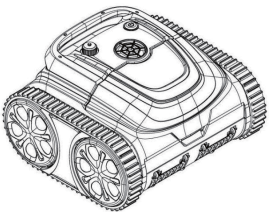
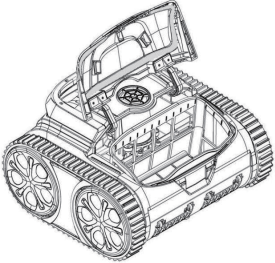

Figure 4-1
Figure 4-2
4.3.1 Place the cleaner on a flat, dry surface, open the top cover by hand and access the filter basket as shown in (Figure 4-1), and (Figure 4-2).